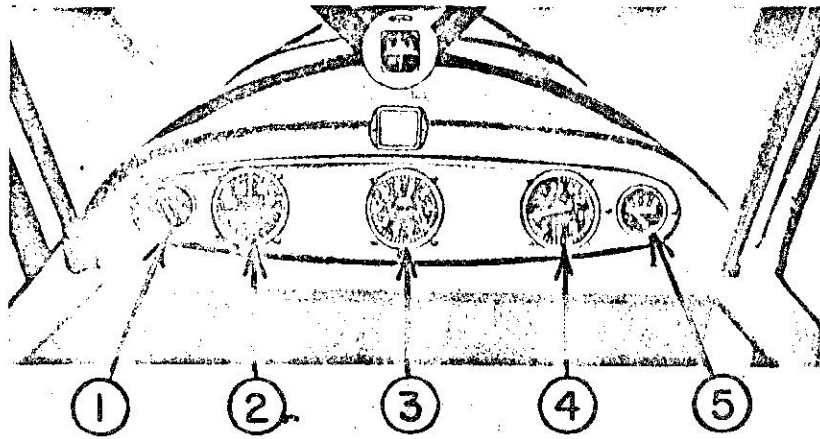

Figure 4—Instrument Panel L-2
c. All models are dual (stick) controlled, with externally braced wings and split-vee type landing gear employing elastic cord shock absorbers. Each has dual controlled mechanical wheel brakes operating individually on left and right wheels, a parking brake and a steerable tail wheel. Standard flying instruments include air-speed indicator, altimeter, and compass, (figures 4 and 5). Engine instruments consist of oil temperature and oil pressure gages and engine tachometer (figures 4 and 5). The L-2M is equipped with standard AAF type instruments. (See figure 6.)